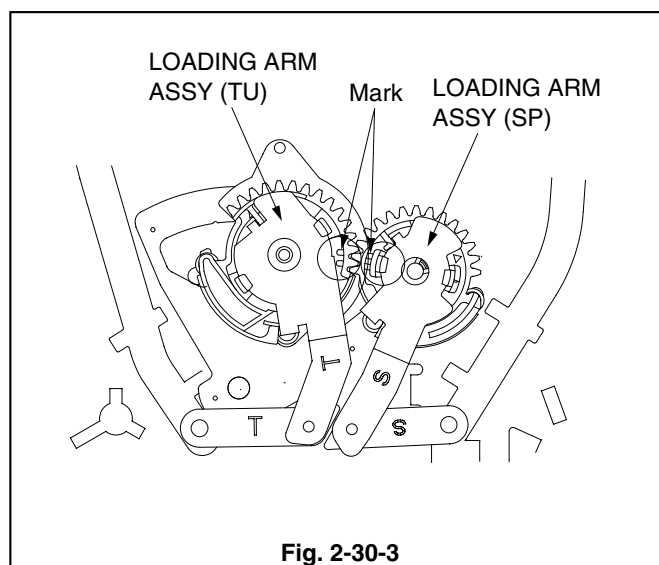

Fig. 2-30-3
3. Install the LOADING ARM ASSY (SP) and LOADING ARM ASSY (TU) so that the Marks on the both UNITS face each other, as shown in the Fig. 2-30-3.
**Note :** Be sure to replace the removed LOADING ARM ASSY (SP) with a new one.